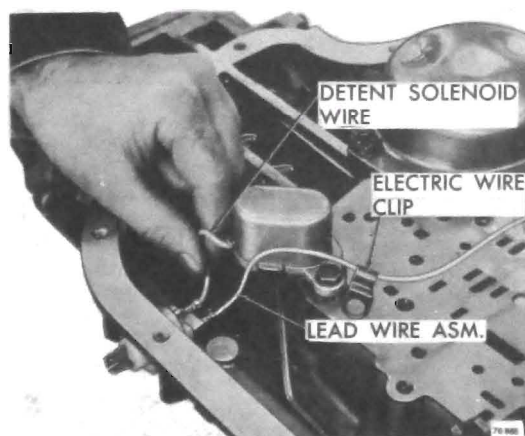

Figure 76-775
13. Install detent wire and lead wire to case connector. See Figure 76-775.
NOTE: Check by pulling on detent connector wire. If detent connector wire can be removed, turn wire connector over and reinstall into connector. See Figure 76-775.